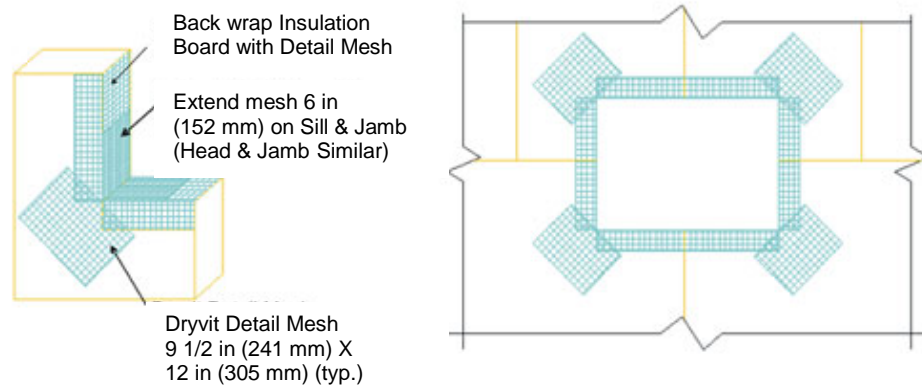

Figure 21
- 21. Corners of all openings such as windows, doors, mechanical equipment and all penetrations shall be reinforced with Detail Mesh placed diagonally to the opening as illustrated in Figure 21.